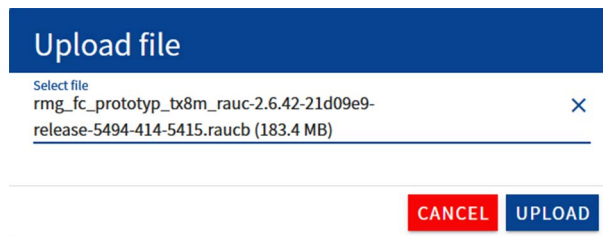

Fig. 106: Upload file window
- ➔ The selected file is shown in the **Upload file** window (see fig. 106)